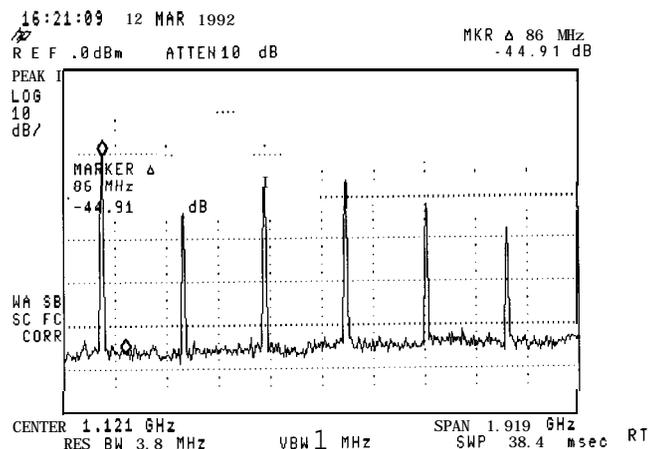

Figure 3-14. Using the Marker to Peak/Peak Function
5. The **MARKER** → **PK-PK** softkey can be used to find and display the frequency and amplitude difference between the highest- and lowest-amplitude signals. To use this automatic function, press **(MKR→)**, More 1 of 2, **MARKER** → **PK-PK**. See Figure 3-14.